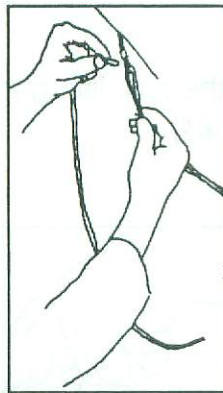

Figure 19
b) To pull the crossbar back by hand, first thread the perlon line attached to the xbar wire around the horizontal bolt in the center of the control bar apex (streamlined downtubes), or around the top of the downtube (round downtubes) and then back through the thimble on the crossbar pull back wire and pull back on the perlon to pull the crossbar back. When you have the crossbar back far enough to attach the VG activation cable, wrap the perlon line around the top of the downtube and temporarily tie it off. (Figure 19, 20)